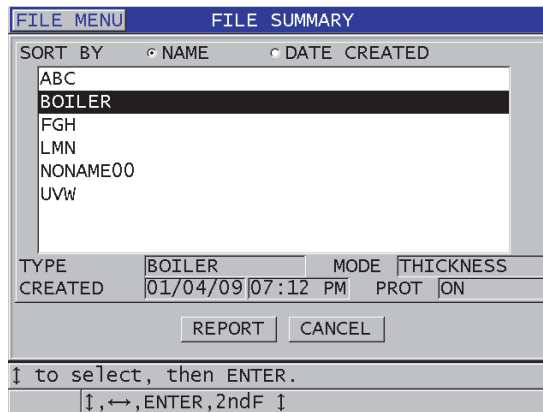

Figure 11-30 The **FILE SUMMARY** report screen
4. In the **FILE SUMMARY** screen (see Figure 11-30 on page 223):